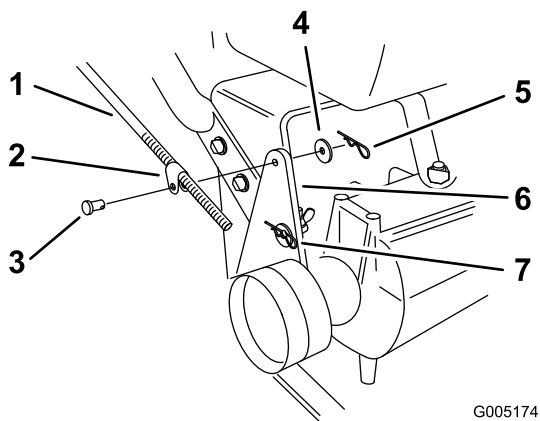

Figure 39
2. Check the operation. If adjustment is required, remove hairpin cotter, washer and clevis pin securing control rod fitting to idler bracket (Figure 39).